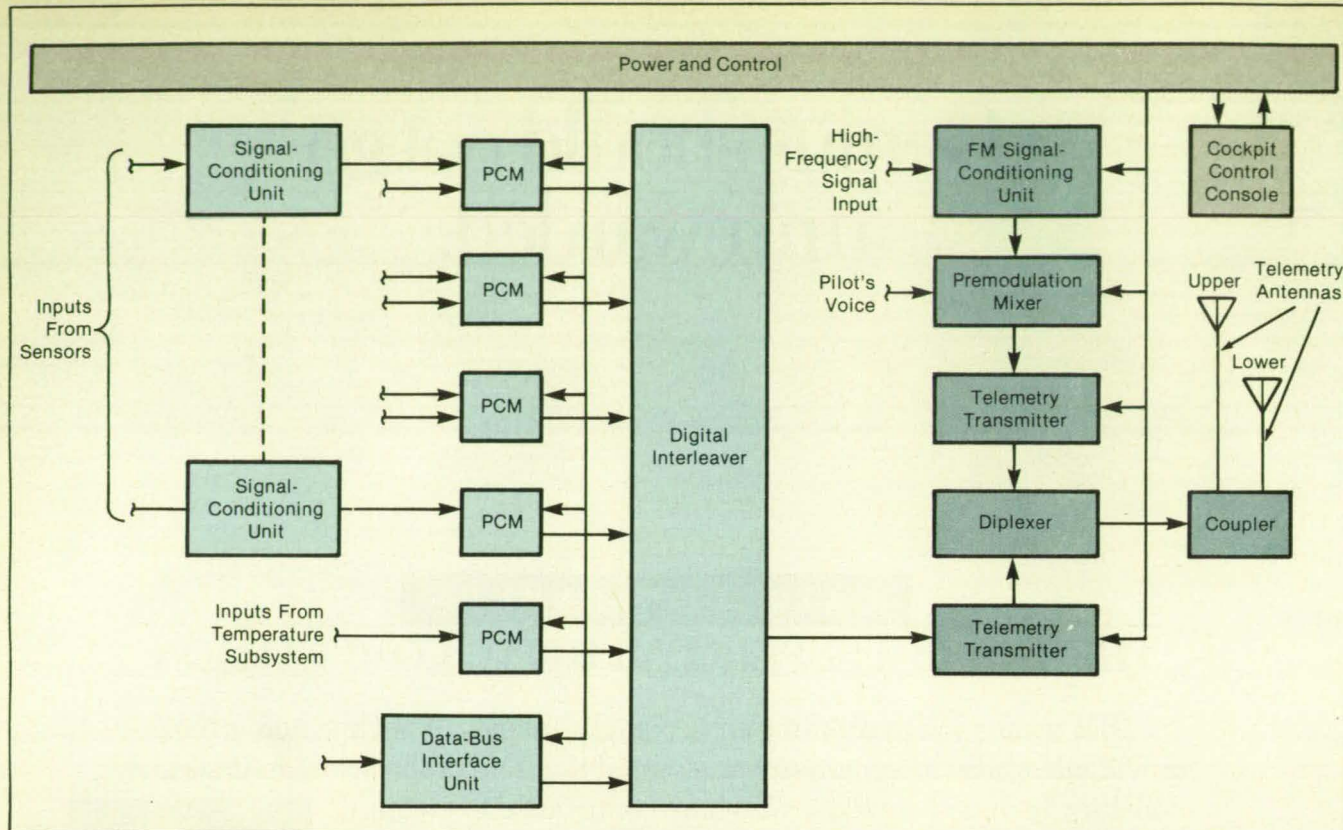
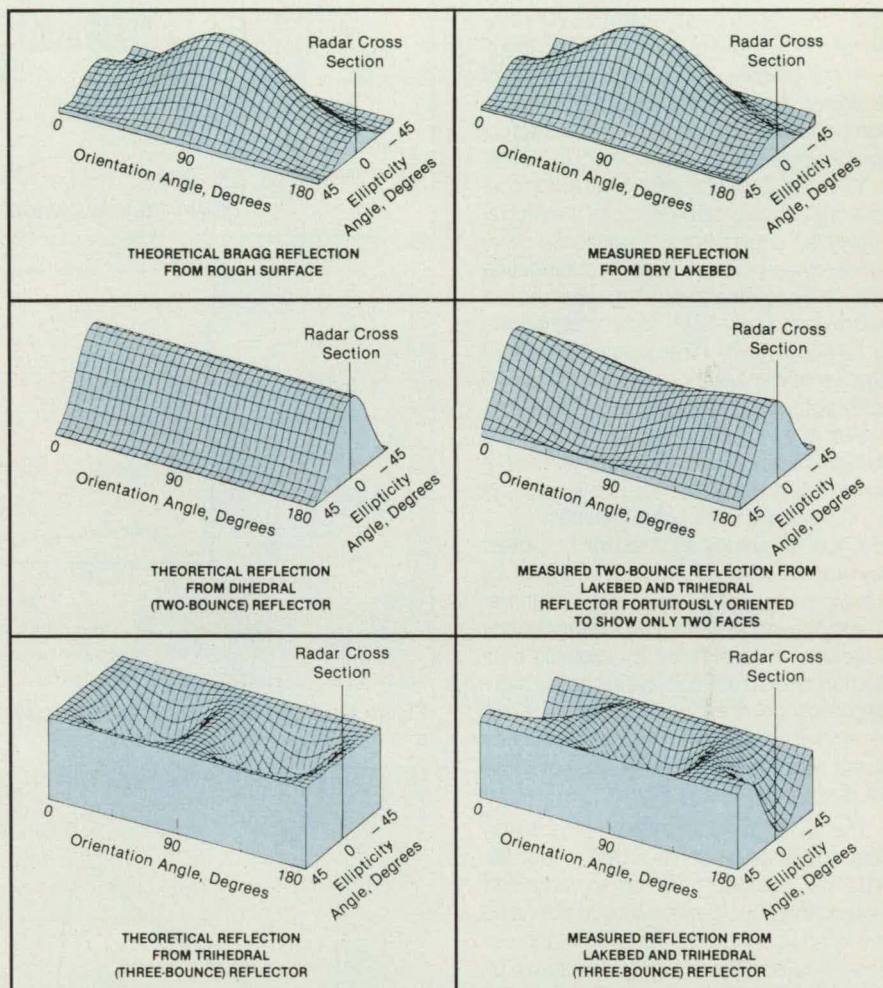

Figure 2. The Data-Acquisition and -Transmission subsystem of Figure 1 is shown here in more detail.
Figure 1. **Radar Cross Sections** were calculated theoretically and measured for three representative targets.
The data-acquisition subsystem (see Figure 2) aboard the airplane uses both pulse code modulation (PCM) and frequency modulation (FM) for transmission of sensor data on the operation of the engine, the performance of the airplane, and the conditions in the atmosphere. No data are recorded on the aircraft. The 10-bit PCM system transmits at rates that vary from 25 to 400 samples per second, depending on the desired frequency range to be covered. The digital data are processed by five PCM units, and an interleaver device merges the stream of data along with the output from the bus of the flight-control computer. The data are telemetered as an uncalibrated serial PCM stream.
Matrix S and the radar cross section, which is easily calculated from S , vary as the target is rotated about the radar line of sight or, equivalently, as the radar antenna is rotated around the line of sight and/or the radar polarization is varied. For example, the left side of Figure 1 shows theoretical radar cross sections for copolarized reflections (identical transmitting and receiving polarizations) from a rough surface, from a dihedral corner reflector, and from a trihedral corner reflector as functions of the orientation of the polarization ellipse and of the ellipticity angles. (Ellipticity angles of $\pm 45^\circ$ denote circular polarization, while 0° denotes linear polarization.)
The right side of Figure 1 shows the signatures of a dry lakebed and two corner reflectors mounted on it, as measured by an airborne radar. The tilt of the reflector showing the two-bounce response can be inferred by integrating the squared differences between the measured signatures and the calculated two-bounce signatures over all states of polarization and noting the tilt angle that would minimize the error (see Figure 2).
Figure 2. The **Tilt of a Reflector** can be inferred by finding the angle that minimizes a measure of the difference between theoretical and measured radar cross sections of the reflector.
In addition, by controlling the relationship between the slip and stator frequencies, one can operate the induction motor either as a motor or as a generator (see Figure 2). Such a bidirectional energy transducer could be used as a starter/generator for an engine wherein high starting torques are provided by high controlled slip frequencies and generation is provided by negative slip frequencies, or as a servomechanism for control of acceleration and deceleration. Other advantages include operation under controlled voltage-to-frequency ratios to maintain high-efficiency and high power factor, and no reflection of low-frequency noise into the 20-kHz distribution bus.
Figure 2. The Torque-vs.-Speed (or Slip) Curve of an induction machine has both positive and negative regions, signifying operation as either a motor or a generator.